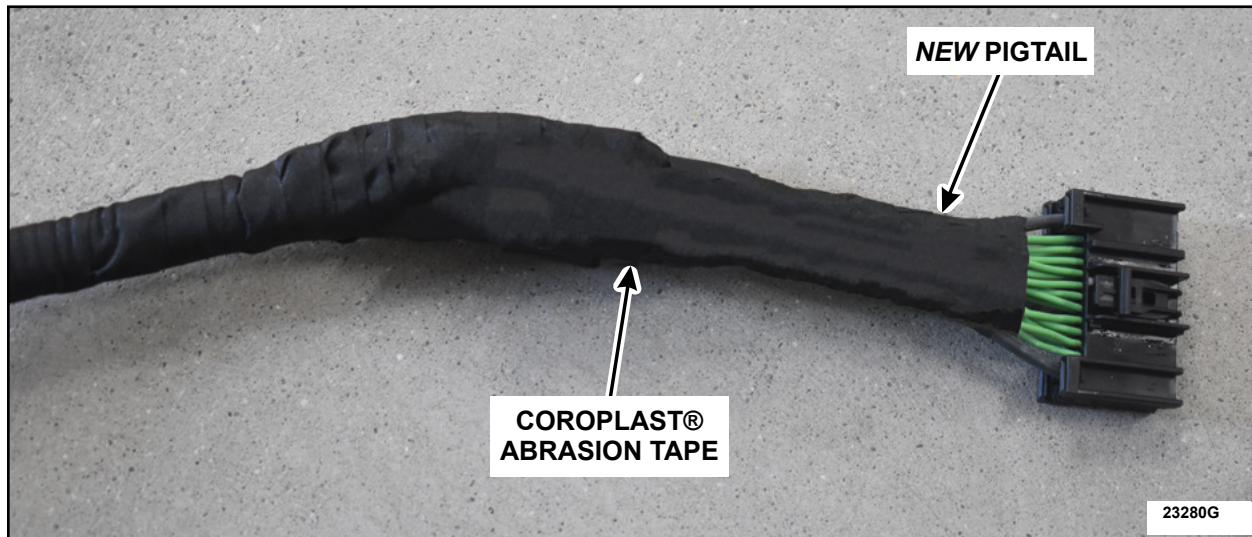

FIGURE 10
17. Install the convolute from the original connector to the *new* pigtail wiring the and wrap using Coroplast® 837 abrasion tape or equivalent. See Figure 10.